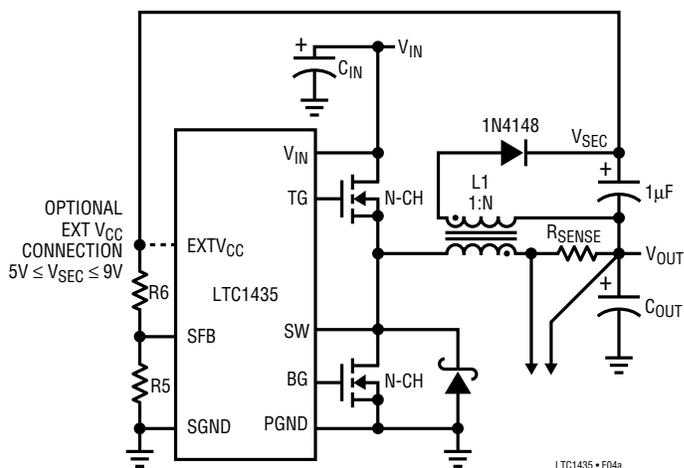
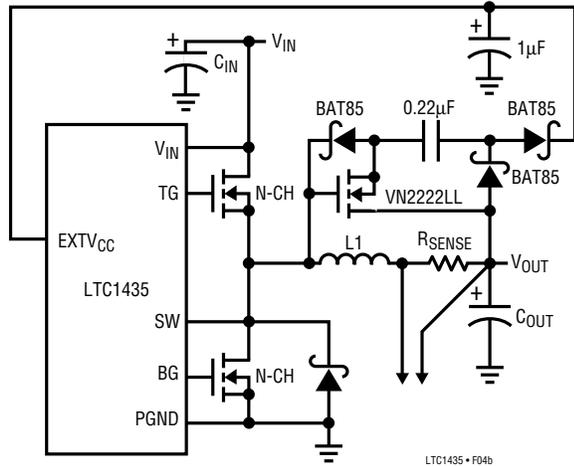

Figure 4a. Secondary Output Loop and EXT_V_{CC} Connection
Figure 4b. Capacitive Charge Pump for EXTVCC
3. EXT_V_{CC} connected to an output-derived boost network. For 3.3V and other low voltage regulators, efficiency gains can still be realized by connecting EXT_V_{CC} to an output-derived voltage which has been boosted to greater than 4.8V. This can be done with either the inductive boost winding as shown in Figure 4a or the capacitive charge pump shown in Figure 4b. The charge pump has the advantage of simple magnetics.
The secondary output voltage is set by the turns ratio of the transformer in conjunction with a pair of external resistors returned to the SFB pin as shown in Figure 4a. The secondary regulated voltage, V_{SEC} , in Figure 4a is given by: